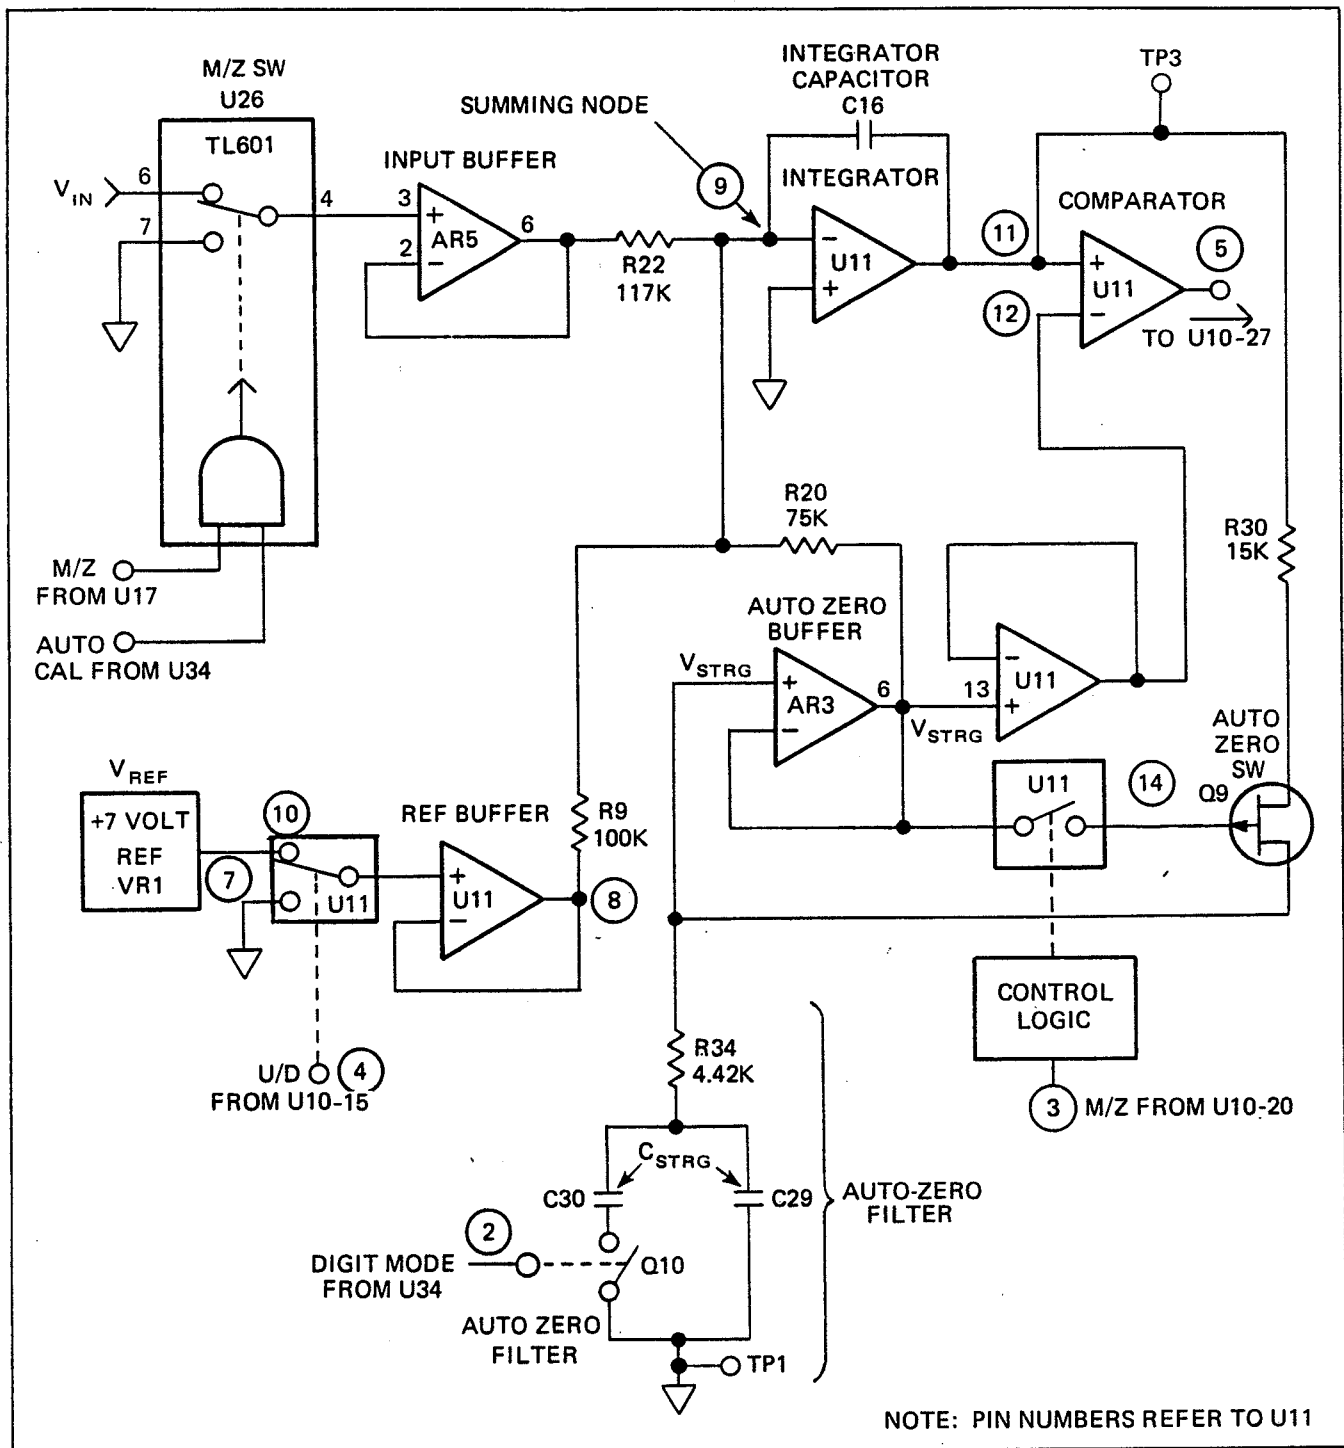
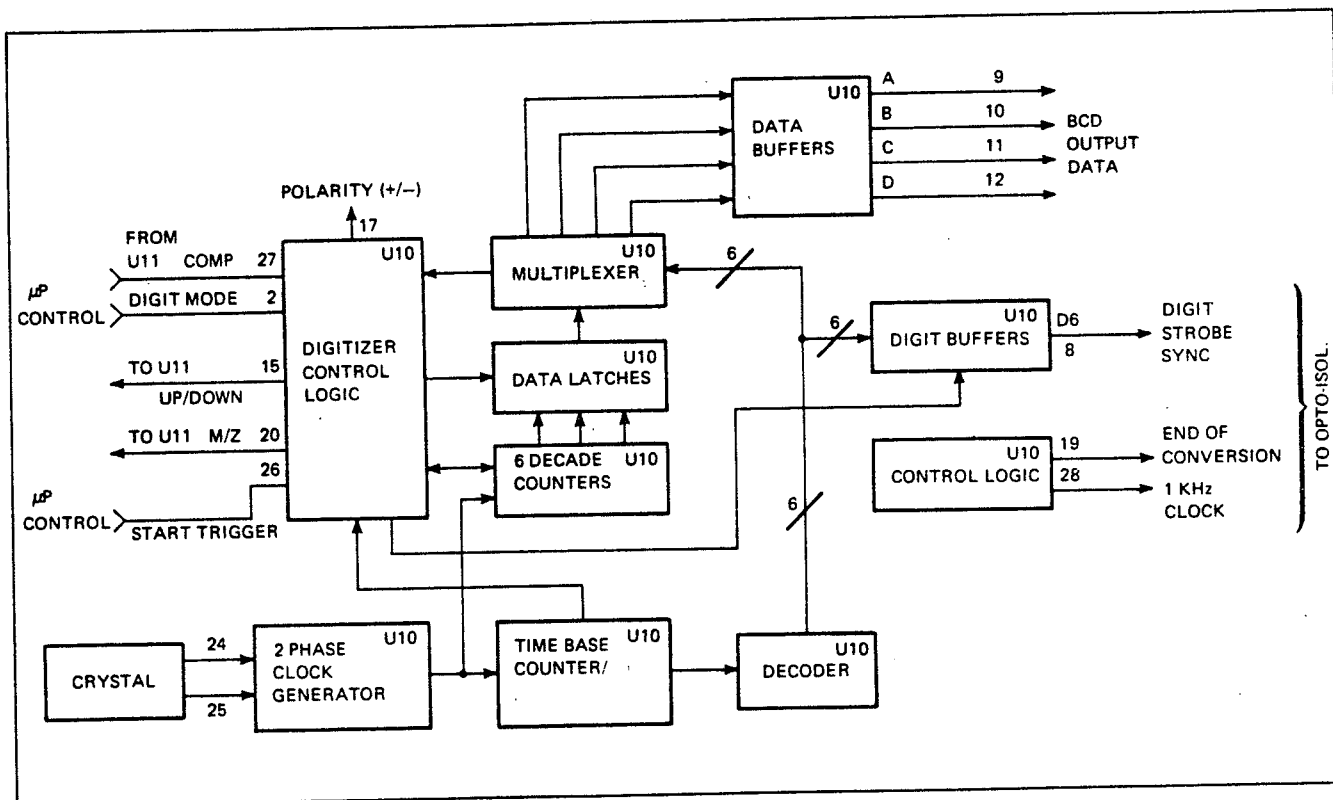

Figure 4.8 - Simplified A/D Analog Processor
Figure 4.9 - A/D Digitizer Counter and Control
Q10, Voltage Reference VR1, and Opto-isolator drivers U9/U17. A simplified diagram of the Analog Processor and supporting external circuitry is shown in Figure 4.8 where designators and circled numbers relate to the A/D schematic at page 6-9'. A block diagram of the A/D Digital Counter and Control is presented in Figure 4.9.
4.4.3.1 Referring to Figure 4.8, during the Auto-zero (A/Z) interval the input of AR5 (Input Buffer) is switched from the Isolator output to analog common by M/Z switch U26. Auto-zero switch Q9 is enabled and connects the Integrator output to Auto-zero filter capacitors C29 and C30, and the input of Auto-zero buffer AR3. Both switches are controlled by the M/Z signal from the Digital Control IC, U10. The U/D control signal, with its 50% duty cycle, alternately switches the input of the Reference Buffer between Analog Common and the 7 volt reference, VR1. When the U/D control is low, the Reference Buffer output is equal to +7 volts; when the U/D control is high, the Reference Buffer output is zero. The Integrator input current (pin 9 of U11) is a summation of currents from the Input Buffer, Reference Buffer and Auto-Zero Buffer through resistors R22, R9 and R20 respectively. The average current through R9 is equal to one-half the Reference Voltage divided by the value of R9,  $\frac{V_{REF}}{2R9}$ , because the reference current is flowing